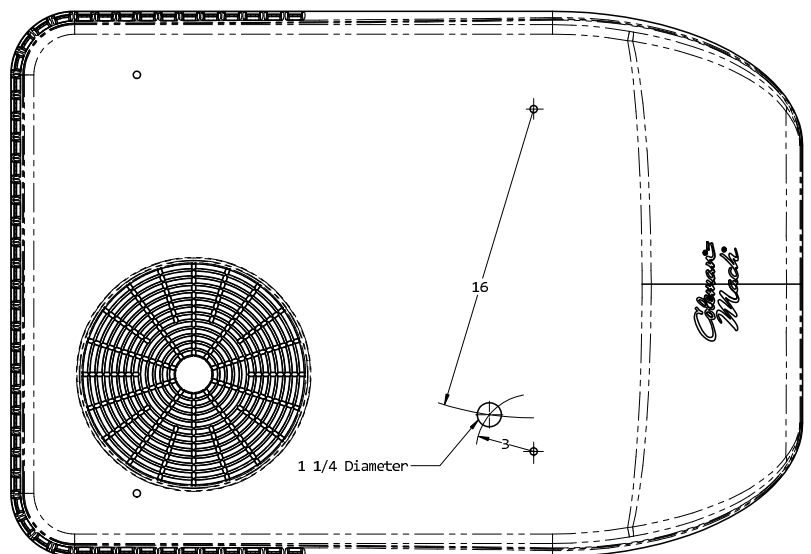

FIGURE 3
To install the solar panel and through-way wiring of this kit to the 47000 series air conditioners, perform the following steps (refer to Figures 3 and 4).
4. Referencing Figure 3, scribe two arcs on shroud and drill a 1 1/4" inch diameter hole at the arc intersection. This hole is for the solar panel assembly wiring.